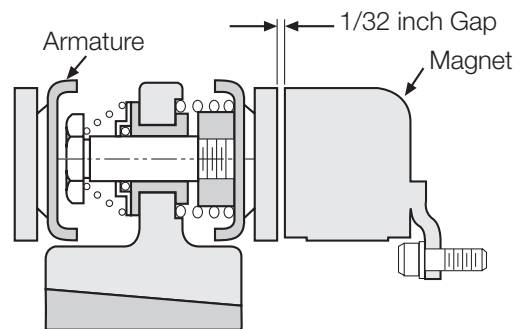

Figure 14
3. Place the face of the armature approximately $1/32''$ from the face of the magnet. Once this gap is set, it will be automatically maintained throughout the life of the unit. (Figure 14)